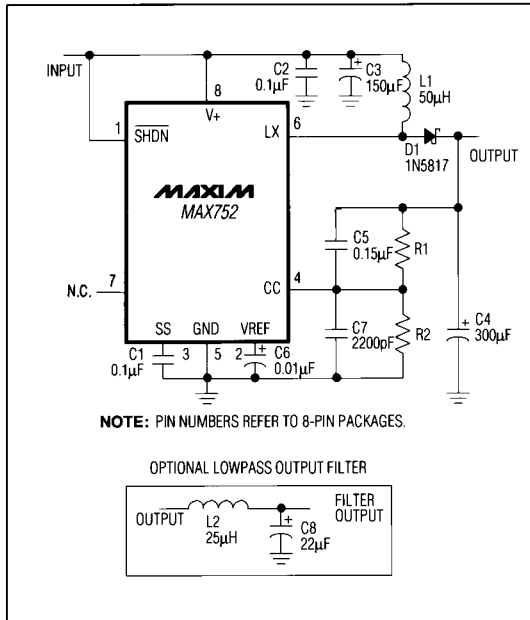

Figure 2b. MAX752 Standard Boost Application Circuit
**For MAX752 applications where greater than 13V is generated with more than 100mA load current, capacitor C2 (Fig2b) should be located less than 1/2 inch from V+ and GND pins of the IC. This capacitor snubs high voltages created by large load transients.**